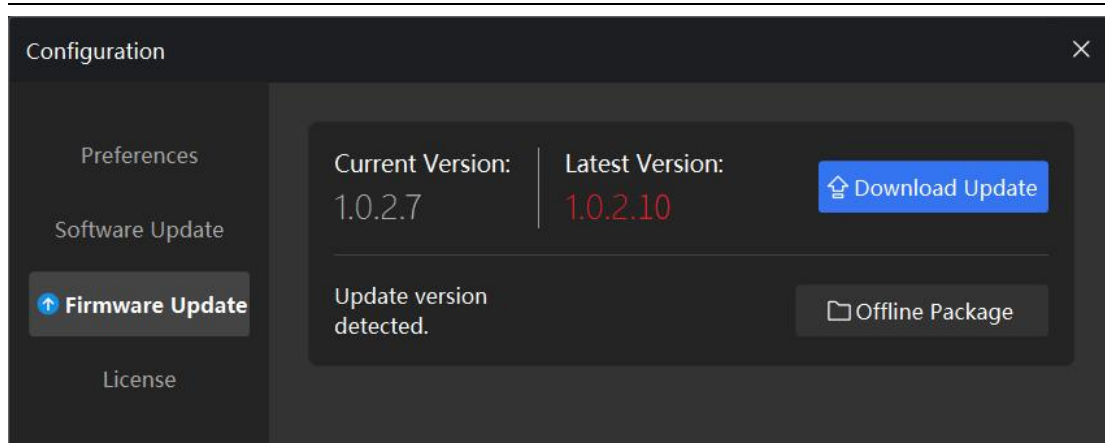

Figure 5-6 Firmware Update
2. Click "Confirm" to proceed with the firmware upgrade, and the software will jump to the "Update" window. Select "Download Update" to initiate automatic firmware download and installation when connected to the internet, as shown in Figure 5-6.